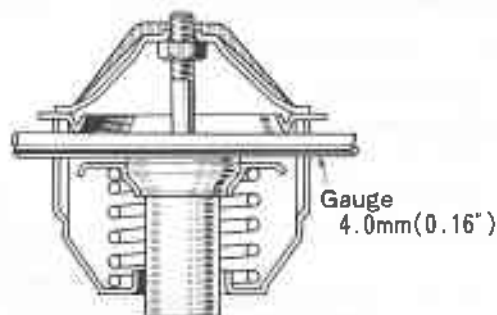

Fig. 7-11 Checking Thermostat
- b. Hold the thermostat with pliers and check the valve opening travel between the valve and the flange using a suitable gauge of 4.0 mm (0.16") as shown in figure 7-11.